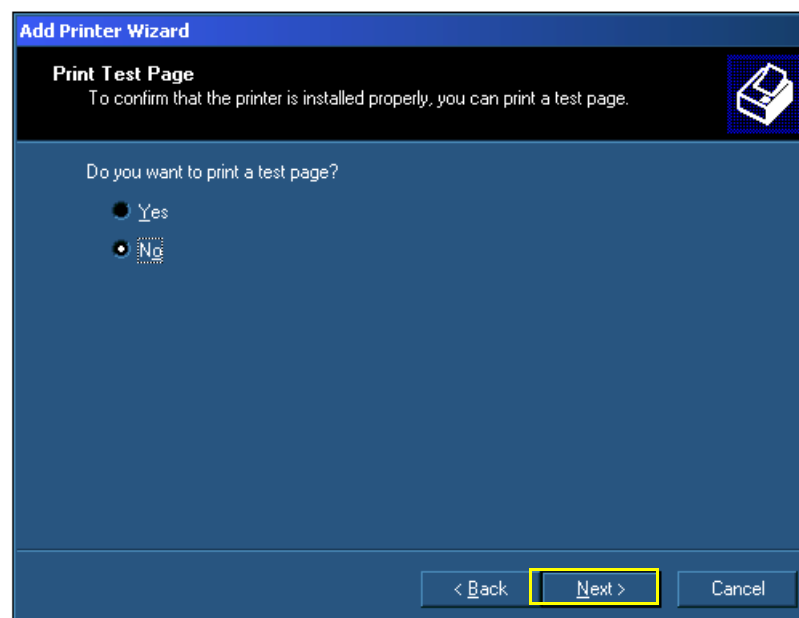

Figure 8-144 Print Test Page Message
- 20.) In response to the *Print a test page?* message, choose **No** and then click **Next** - see Figure 8-144.